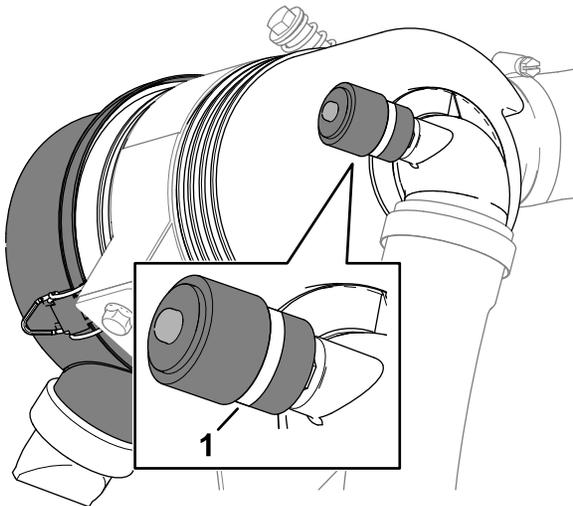

Figure 78
3. Check the service indicator at the end of the air filter housing (Figure 78).